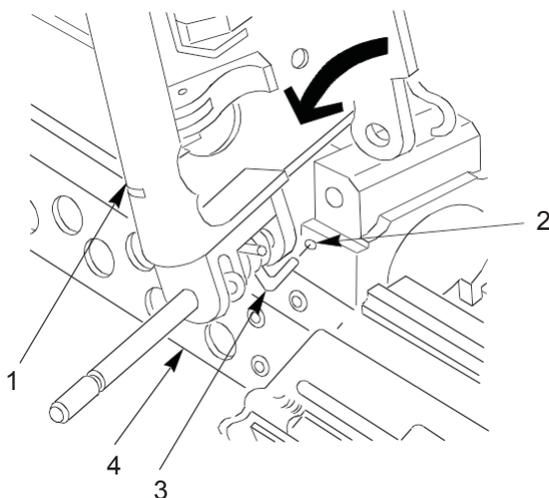

Figure 4. Feed Mechanism Assembly, Receiver Assembly, Freeing Torsion Spring.
4. Pivot cover and feed mechanism assembly (Figure 4, Item 1) to left of receiver assembly (Figure 4, Item 4), freeing torsion spring (Figure 4, Item 3) from hole (Figure 4, Item 2). Separate cover and feed mechanism assembly (Figure 4, Item 1) from receiver assembly (Figure 4, Item 4).